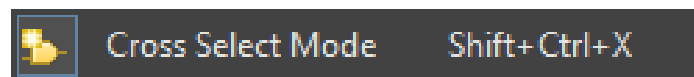

Figure 13. *Cross Select mode enabled*
42. Ensure that **Cross Select Mode** is enabled, indicated by its blue highlight in **Tools » Cross Select Mode** (as shown in Figure 13 below). If it's not enabled, click the icon to enable it.